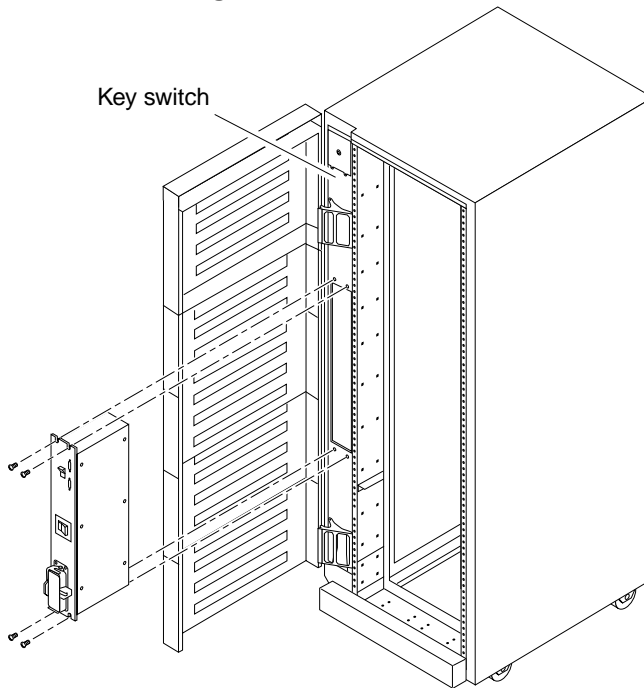

FIGURE 1-5 Power Sequencer Installation in the Expansion Cabinet
- FIGURE 1-5 Power Sequencer Installation in the Expansion Cabinet 7